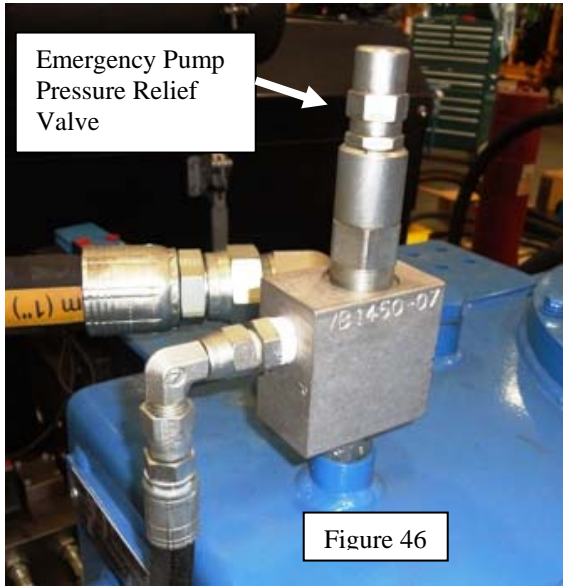

Figure 46
5. If pressure is lower than 2250 psi remove cap and loosen up lock nut (Figure 46). Turn adjusting screw in clockwise to increase pressure.